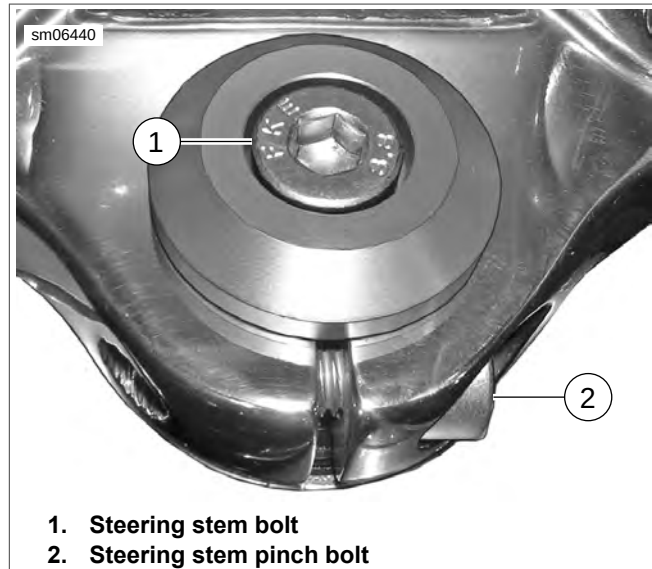

Figure 1-41. Steering Head Fork Stem Bolt and Pinch Bolt
6. See Figure 1-41. The distance between the "fall-away" marks must be 51-102 mm (2.0-4.0 in). Adjust steering stem bolt (1) per the following instructions.
- b. Loosen steering stem pinch bolt (2) and upper fork clamp pinch bolts.